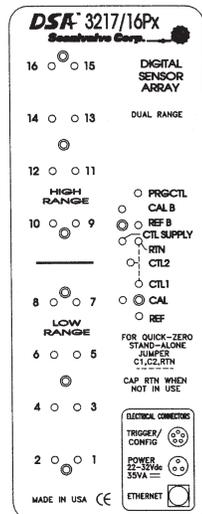

FIGURE 2.2 - DSA3217-PTP/16Px DUAL RANGE TOP PANEL
The DSA3217-PTP/16Px module is available as a dual-range module, offering eight (8) channels of one pressure range and eight (8) channels of a different pressure range. Like a standard DSA3217-PTP, each group of eight (8) transducers share a common calibration valve and a common reference manifold. However, in dual range modules the reference manifolds and the calibration valves are not tied together and separate reference and calibration ports are provided on the top of the module. They are labeled CAL, CAL B, REF and REF B. Figure 2.2 depicts the top panel of a dual range DSA3217-PTP/16Px module.